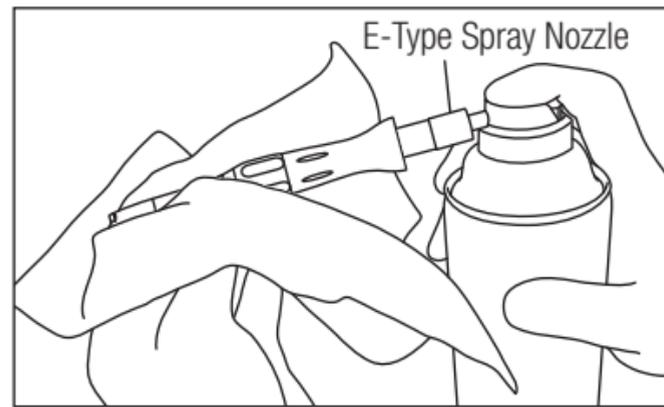

Fig. 17
- 4) Hold the handpiece, and spray for 2 or 3 seconds until oil comes out of the handpiece head (Fig. 17).